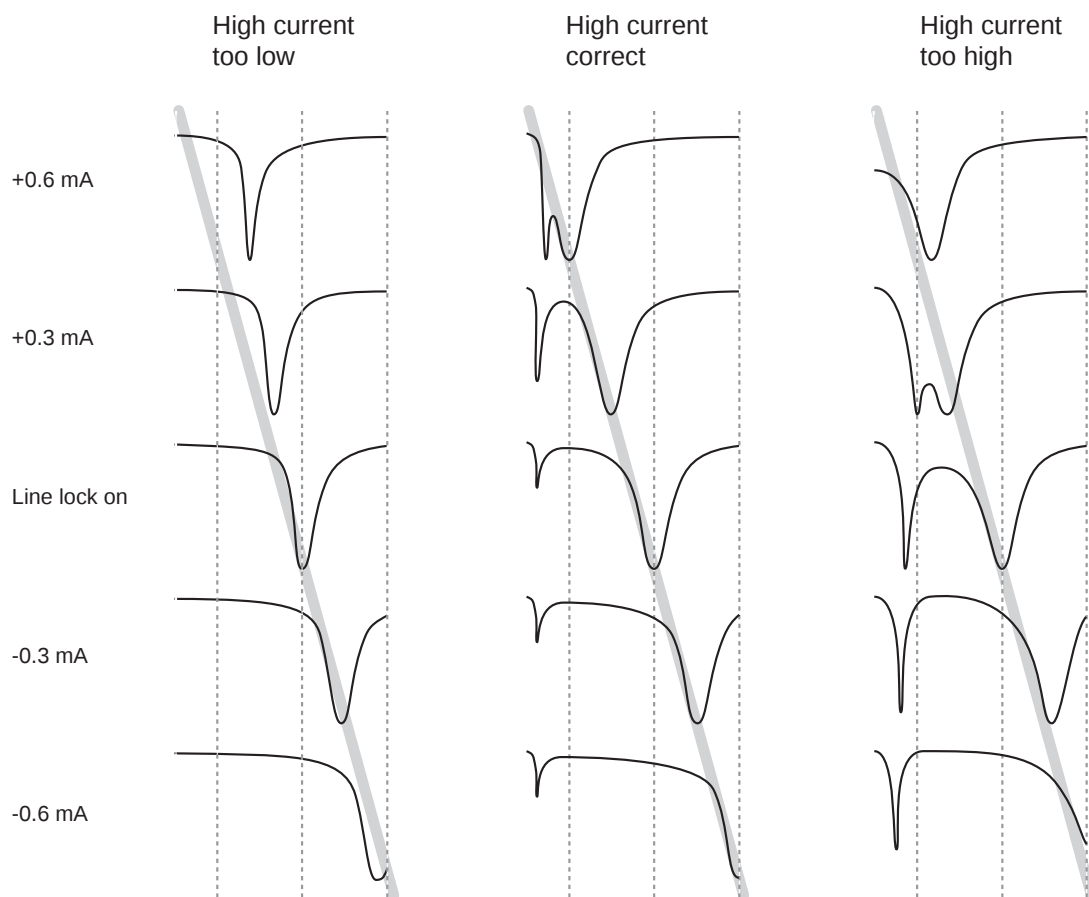

Figure 4-11. High Current Adjustment Procedure
The goal of the high current adjustment procedure is to make the movement of the absorption line symmetrical about its center line as possible, for equal changes in the DC current. The undesired asymmetry is caused by the laser temperature perturbation. As the laser warms up at the start of the ramp, it warms more quickly at first, and then more slowly as it approaches equilibrium. The change in temperature causes a corresponding change in the laser's emission frequency that may require a larger change in DC current to move the absorption line to the left edge of the spectral scan than the right edge. If the high current pulse adequately cancels the temperature perturbation, the laser's emission frequency will be determined only by the linear ramp in the current, and the same change in DC current will move the absorption line to the left or right edge of the spectral scan. This is illustrated in Figure 4-11.
- 9) Evaluate the results and iterate as needed (refer to Figure 4-11):